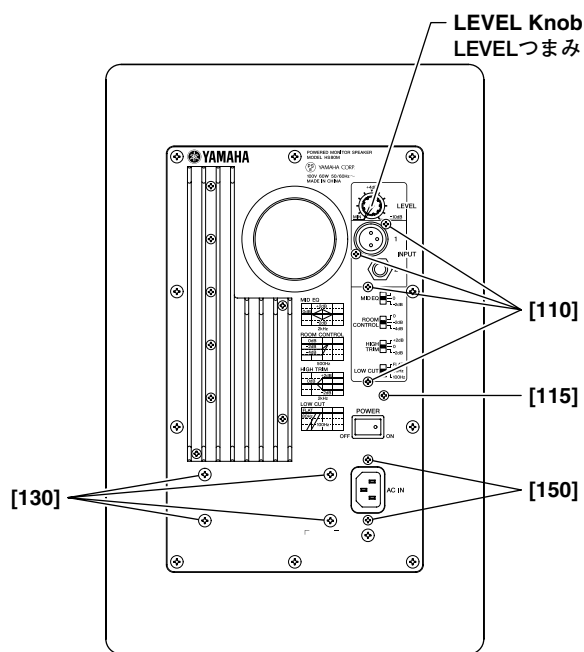

Fig. 3(図 3)
- 5-2 Remove the four (4) screws marked [110] and the screw marked [115]. (Fig. 3)
- 5-3 Remove the LEVEL knob, the hexagonal nut [E] and washer [D]. (Fig. 3, Photo. 5)
- 5-5 Remove the three (3) screws marked [G] and remove the case PWB. (Photo. 3)
- 5-2 [110]のネジ4本と[115]のネジ1本を外します。(図3)
- 5-3 LEVELつまみと[E]の六角ナットおよび[D]のワッシャを外します。(図3、写真5)
- 6-2 Remove the four (4) screws marked [130]. The TRANS circuit board with the power transformer can then be removed. (Fig. 3)
- 7-2 Remove the two (2) screws marked [150]. (Fig. 3)
- 6-2 [130]のネジを4本外し、TRANSシート(電源トランス付)を外します。(図3)
- 7-2 [150]のネジを2本外します。(図3)